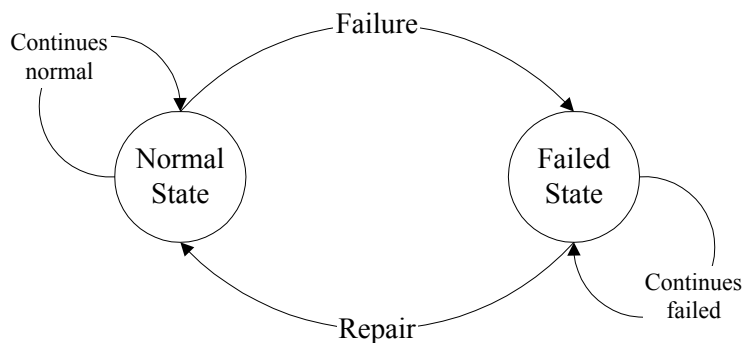

Figure 25. A Markov Transition Diagram for Repairable Systems
- Repairable systems can be assumed for the purpose of demonstration to exist in either a normal, i.e., operating, state, or failed state as shown in Figure 25.